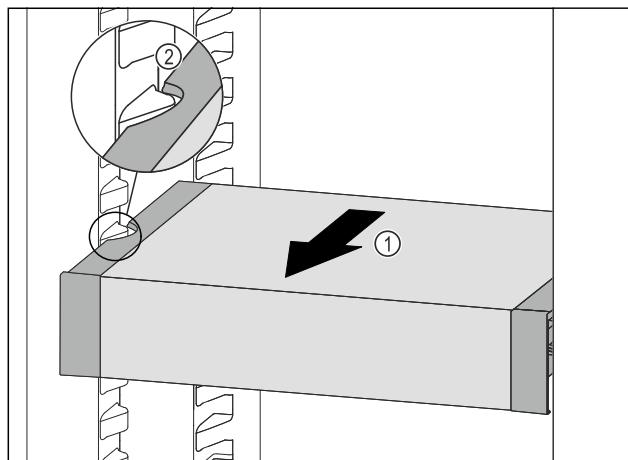

Fig. 146
- ▶ Pull VarioSafe forward Fig. 146 (1) until the recesses in the side of the VarioSafe are at the level of the support rib in the refrigerator compartment. Fig. 146 (2)